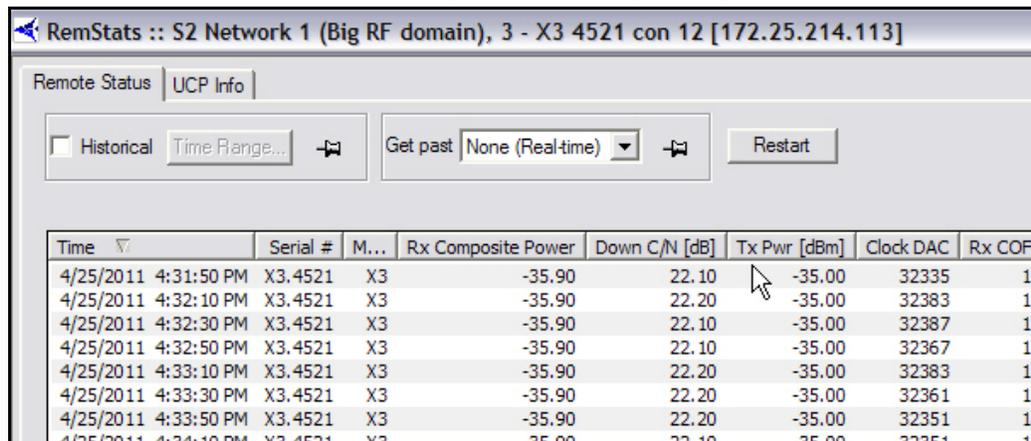

Figure 48. iMonitor Remote Status Display
7. Observe the column Tx Pwr [dBm] (Figure 48).